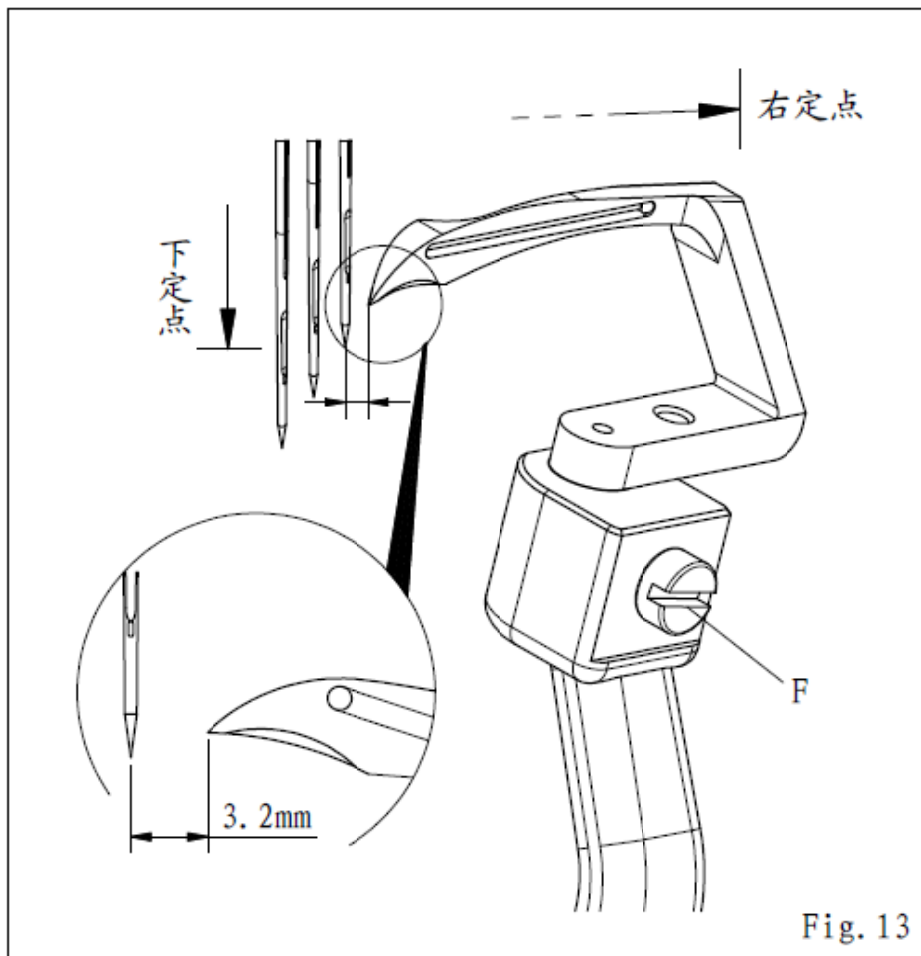

Fig. 13
2. 松开勾针座上的螺丝 (F), 调整下勾针与右针的正确距离 (图 13)。
2. Loosen the screw (F) on the Loper Holder to adjust the correctly distance of Loper and right needle. (Fig.13)